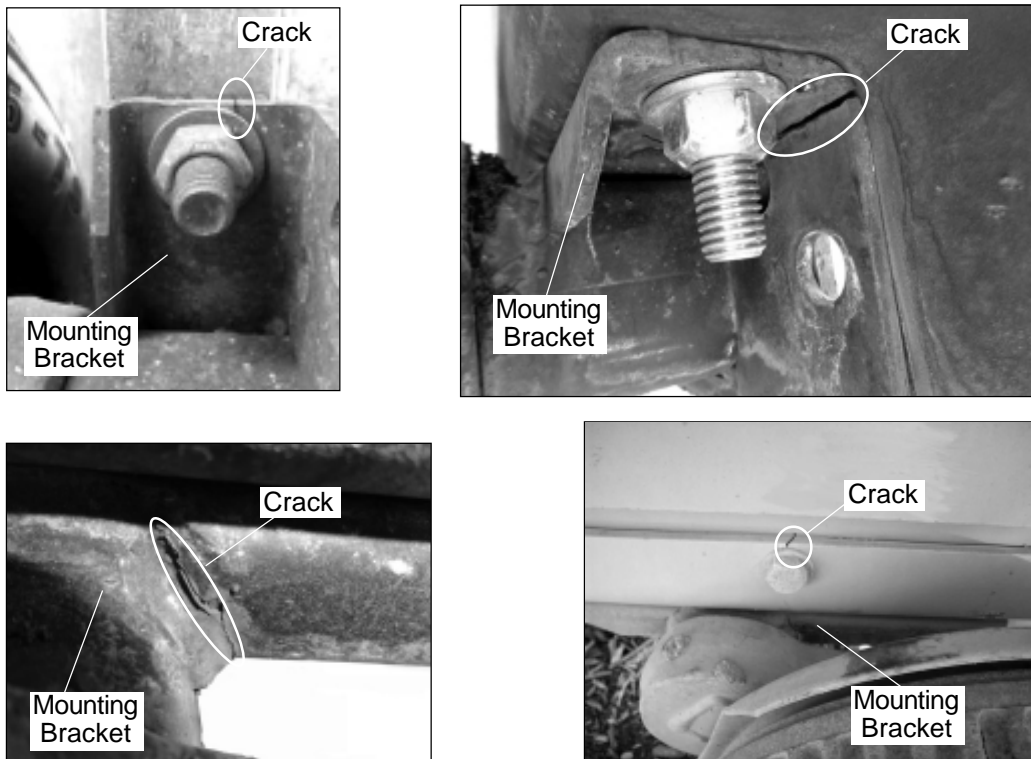

Figure 2 — Examples Of Cracks
4. Look for any cracks that appear to go through the entire thickness of the bracket. Cracks can be in the area of the bends in the mounting bracket, near the mounting holes, or near welds (refer to Figure 2).